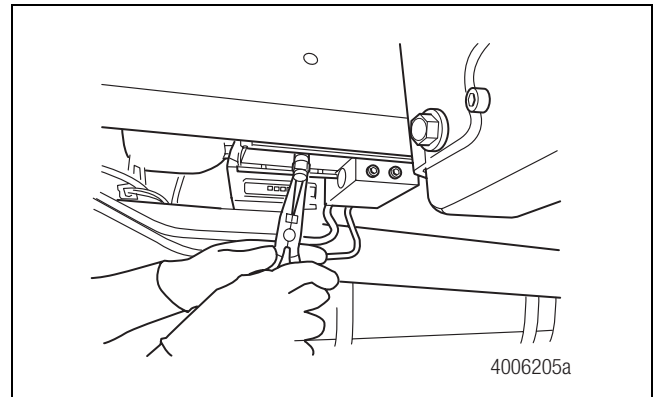

Figure 4.33
- Use light hand pressure to slowly seat the pump into the bore. Use care not to damage the O-rings. Figure 4.33.